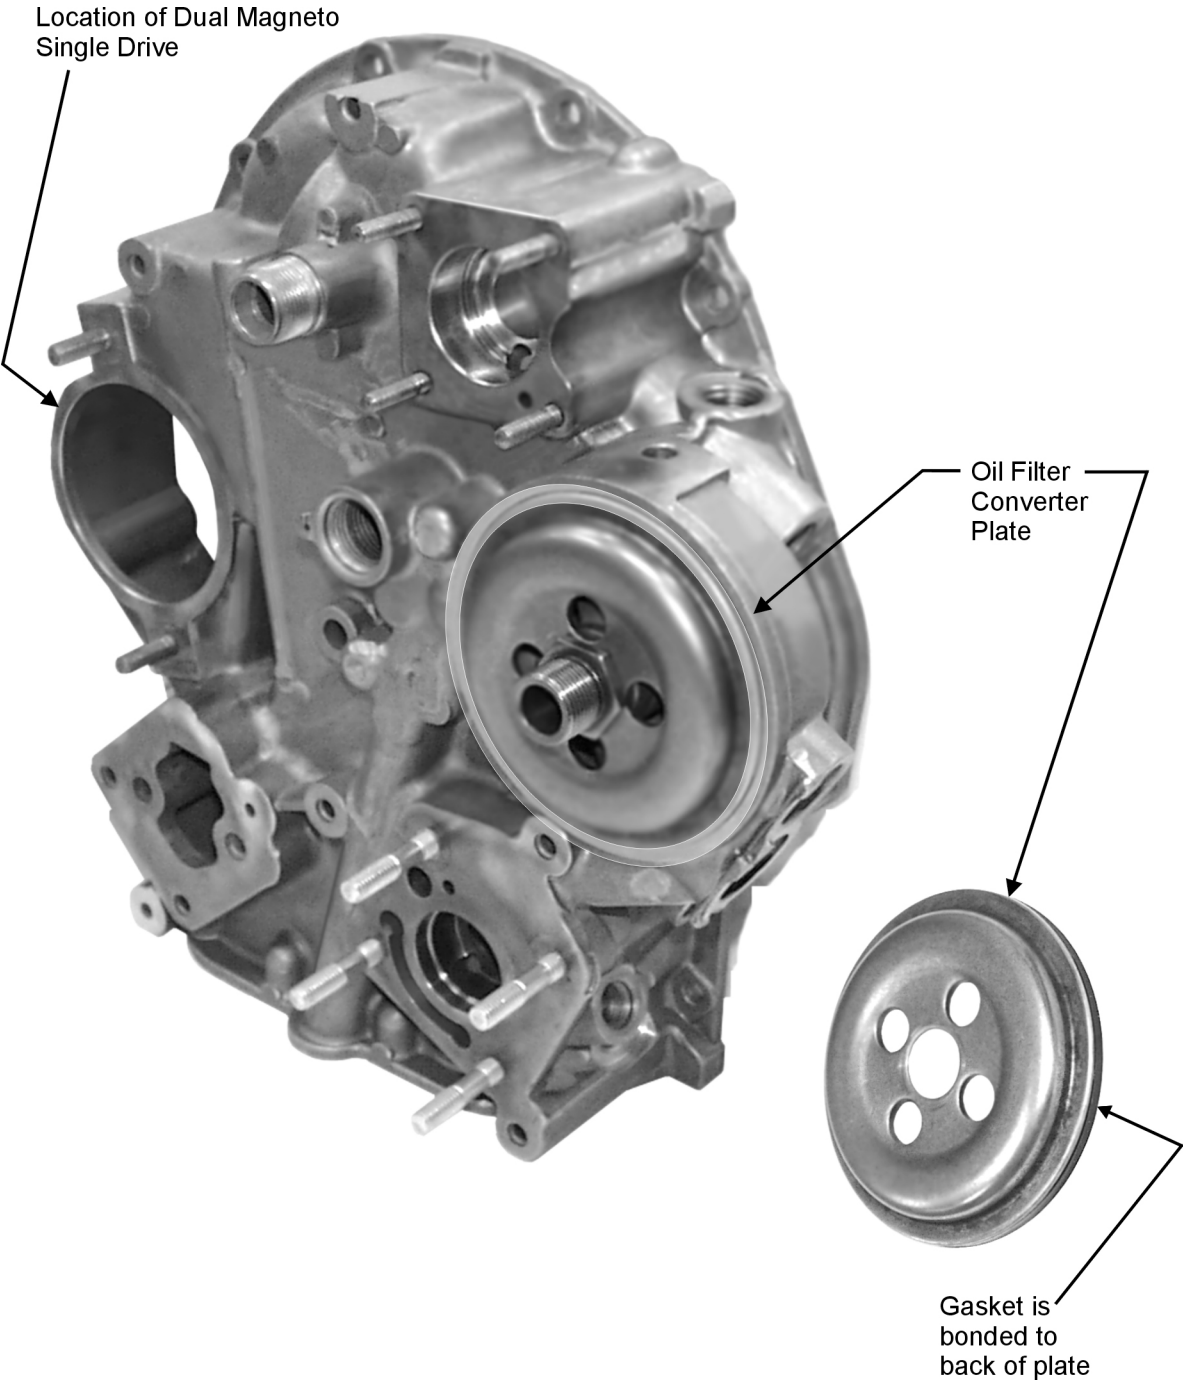

Figure 1
1. Remove the oil filter and the converter plate (Figure 1). Remove the gasket from the plate in accordance with Textron Lycoming Service Instruction No. 1453.